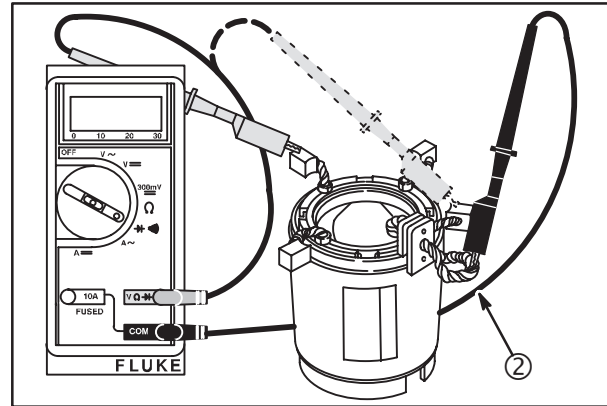

**Fig. 37**
Minimum brush dimension (1) is **1/4” (6 mm)**. If brushes are worn less than specification, replace the starter housing, Fig. 37.